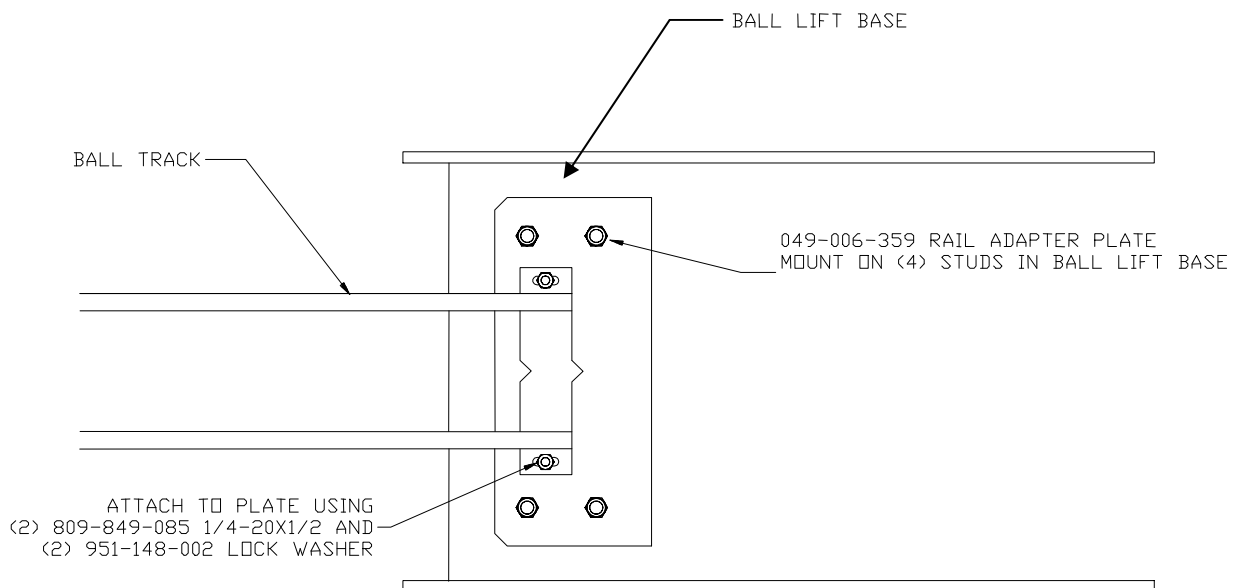

Figure 5, Track to Lift Connection
- If not installed earlier, attach the rail adapter plate (049-006-359), which is included with the underlane track, to the end of the underlane track using two 1/4 lock washers (951-148-002) and 1/4-20 x 1/2 hex screws (809-849-085) (See Figure 5). Tighten securely.
- Secure the adapter plate on the end of the underlane track to the Ball Lift base plate studs using four 11/32-inch i.d. flat washers (948-722-111) and 5/16-18 nylon insert lock nuts (839-057-002) as shown in Figure 5. Track alignment is critical for the smooth transition of the ball to the Lift. Adjust the track as necessary to ensure that the track is centered between the Ball Lift side plates. Shim the adapter plate as needed to obtain a smooth, level track joint.